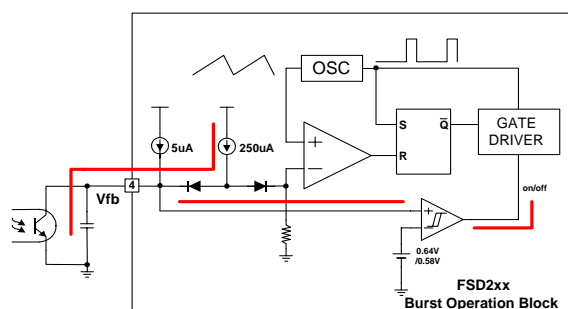
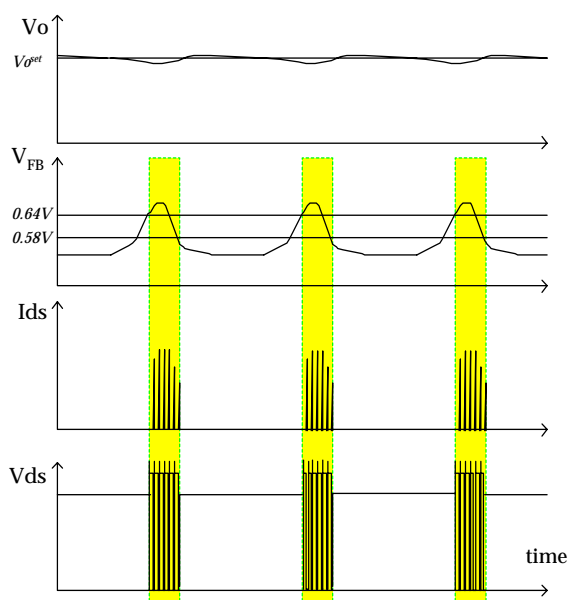

Figure 12. Circuit for burst operation
Figure 13. Burst mode operation
6. Burst operation : In order to minimize the power dissipation in standby mode, the FSD200/210 implements burst mode functionality (see figure 12). As the load decreases, the feedback voltage decreases. As shown in figure 13, the device automatically enters burst mode when the feedback voltage drops below VBURL(0.58V). At this point switching stops and the output voltages start to drop at a rate dependant on standby current load. This causes the feedback voltage to rise. Once it passes VBURH(0.64V) switching starts again. The feedback voltage falls and the process repeats. Burst mode operation alternately enables and disables switching of the power Sense FET thereby reducing switching loss in